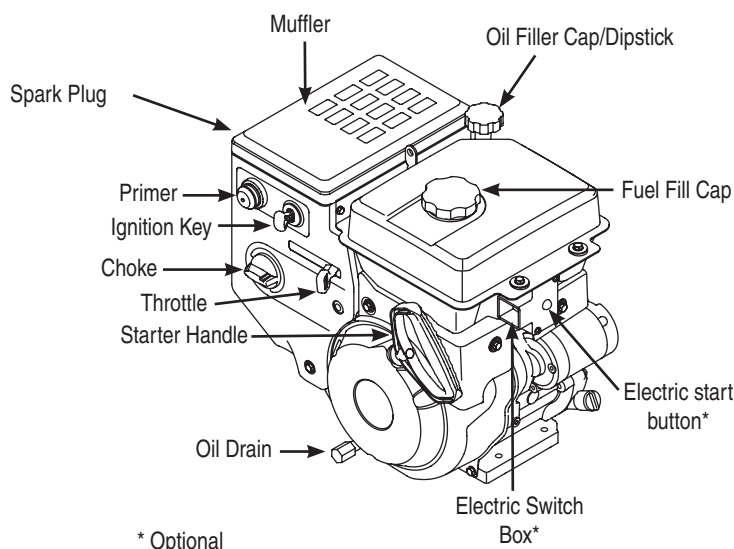

Figure 2-1: Front and rear views of the engine.
4. Move throttle control, Figure 2-1, to FAST (rabbit) position.
5. Move choke to the CHOKE position (cold engine start). If engine is warm, place choke in RUN position, Figure 2-1.
6. Push primer three (3) times, making sure to cover vent hole when pushing, Figure 2-1. If engine is warm, push primer only once. Always cover vent hole when pushing. Cool weather may require priming to be repeated.
7. Push starter button to start engine, Figure 2-1. Once the engine starts, immediately release starter button. Electric starter is equipped with thermal overload protection; system will temporarily shut-down to allow starter to cool if electric starter becomes overloaded.
2. Move throttle, Figure 2-1, control to FAST (rabbit) position.
3. Move choke, Figure 2-1, to the CHOKe position (cold engine start). If engine is warm, place choke in RUN position.
4. Push primer three (3) times, making sure to cover vent hole when pushing, Figure 2-1. If engine is warm, push primer only once. Always cover vent hole when pushing. Cool weather may require priming to be repeated.